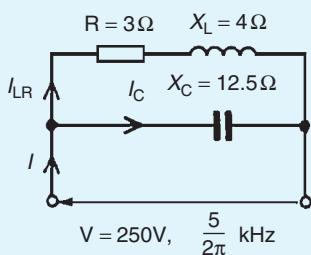

Figure 16.17
- The following statements, taken correct to 2 significant figures, refer to the circuit shown in Fig. 16.17. Which are false?